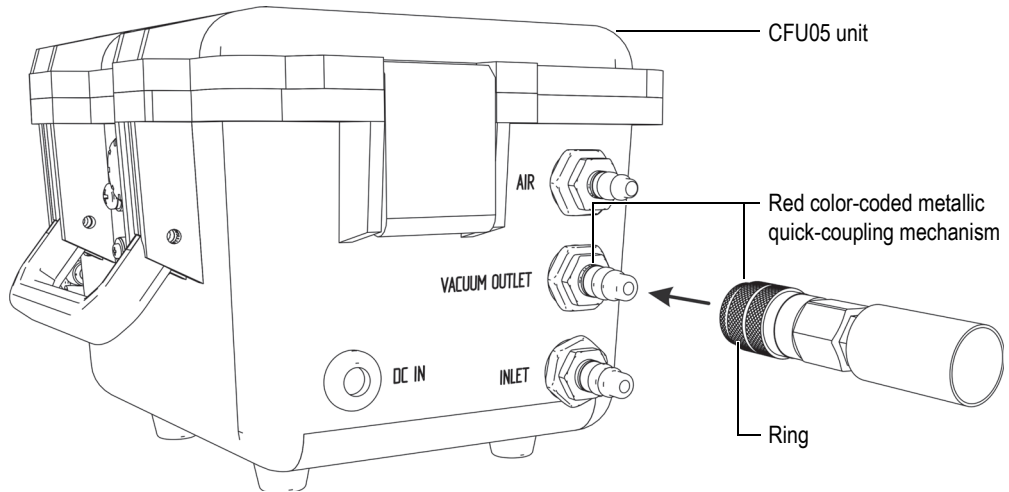

Figure 2-14 VACUUM OUTLET connection
2. Select the hose with the red color-coded metallic quick-coupling mechanism (see Figure 2-14 on page 39).
1. Pull back the red ring of the coupling to release the hose's male connector (see Figure 2-14 on page 39).